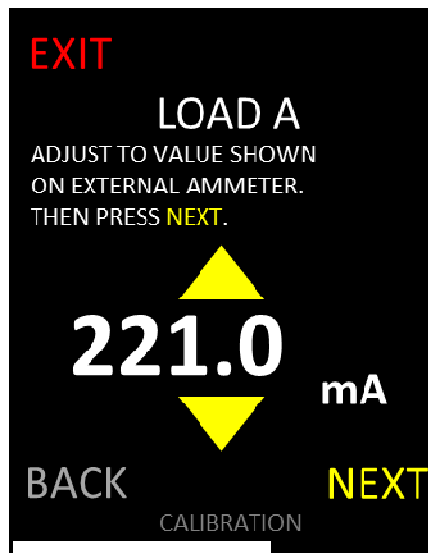

Figure 19. Voltmeter Load A
- 9.1 The “Load A” screen, below, appears. Use arrows on the Touchscreen to match the value shown on the Touchscreen with the reading on the digital ammeter (Figure 19). Select NEXT to continue to the “Load B” screen.